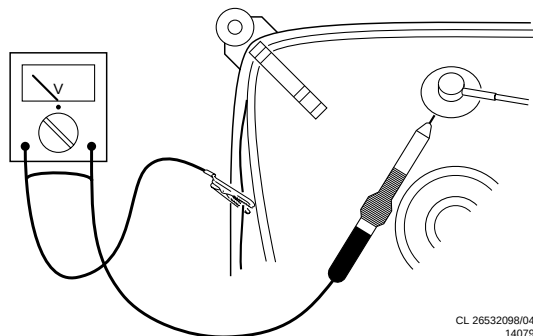

Figure 2-1
- In order to prevent damage to IC's and transistors, all high-voltage flashovers must be avoided. In order to prevent damage to the picture tube, the method shown in Fig. 2-1 should be used to discharge the picture tube. Use a high-voltage probe and a multimeter (position VDC). Discharge until the meter reading is 0 V (after approx. 30 s).